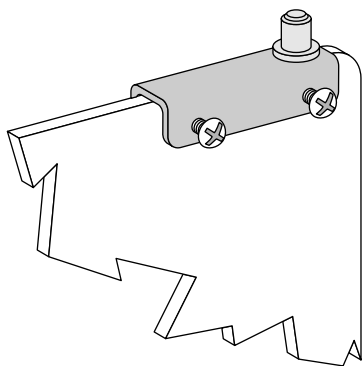

FIGURE 43
2. Loosen the screws at the hinge (see Figure 43). Straighten the door, then tighten the screws.